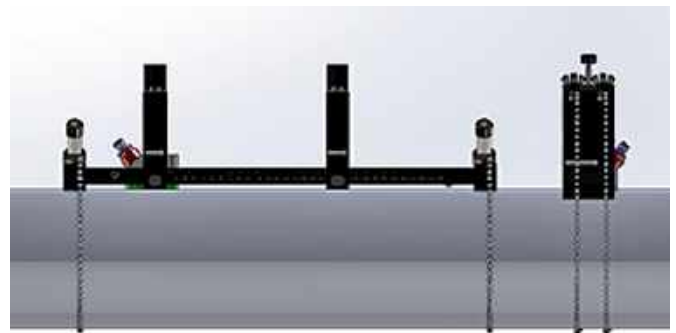

Figure 42: Completed installation (top view)
9. Tighten the yoke screw until the transducer firmly contacts the pipe. Your completed odd-traverse installation should look like *Figure 42* below.